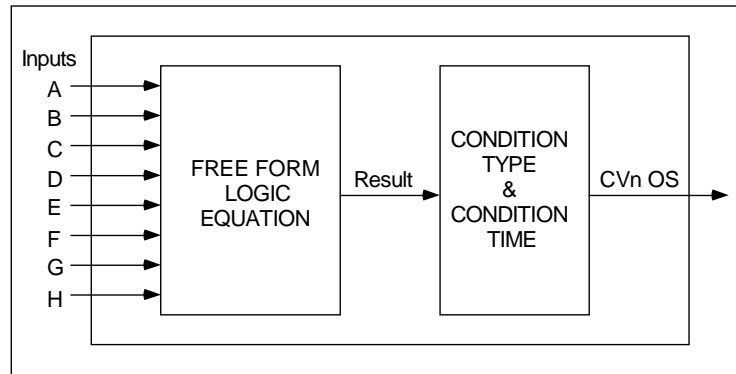

Figure 4-7 Free Form Logic Signal Flow
Lets you enter up to 64 characters as a custom logic equation (EQ) containing inputs and logical operators. The result of this equation is called “Result”. Result is then processed according to the specified condition type and condition time. The final output is CVn OS. See Figure 4-7.